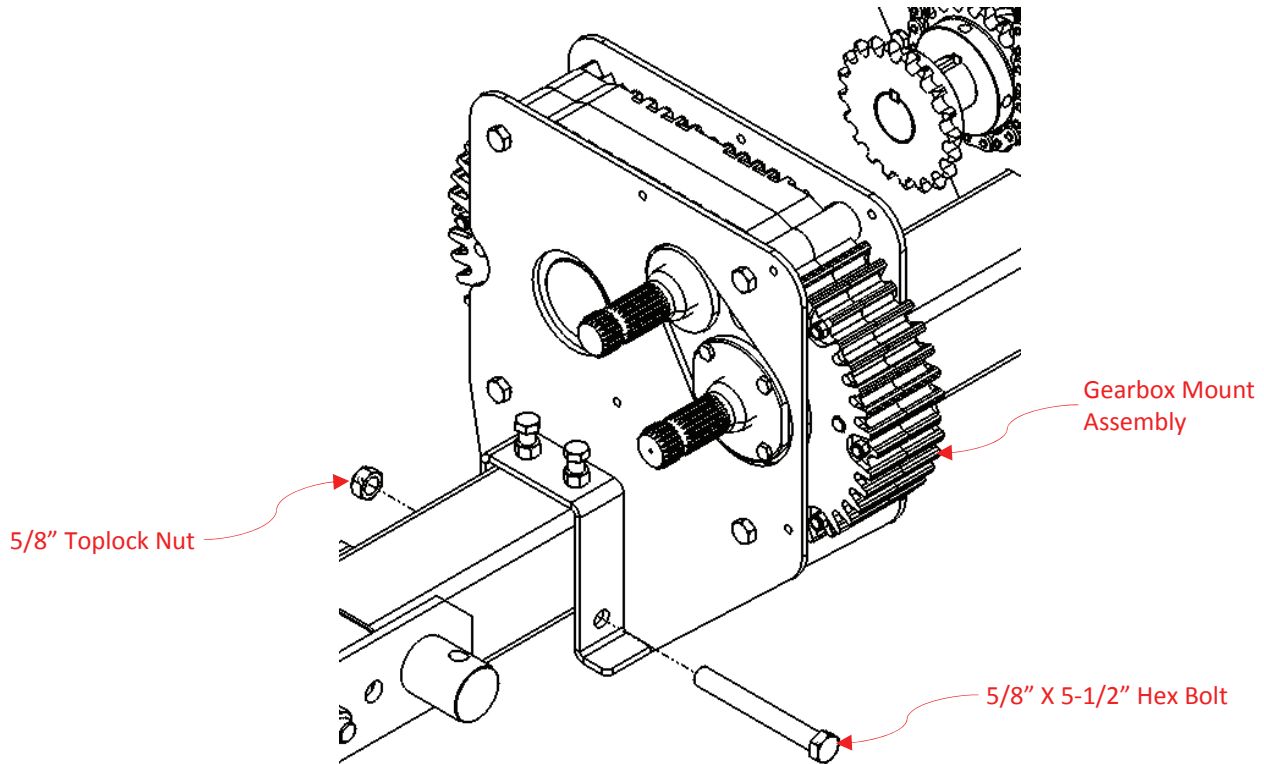

FIG 3.1
Place gearbox mount assembly on infeed tongue as shown in figure 3.1. Place (2) 5/8 X 5-1/2" hex bolts through the lower two holes and thread on (2) 5/8" lock nuts. Tighten using a 15/16" socket & wrench. **Do not** over tighten.